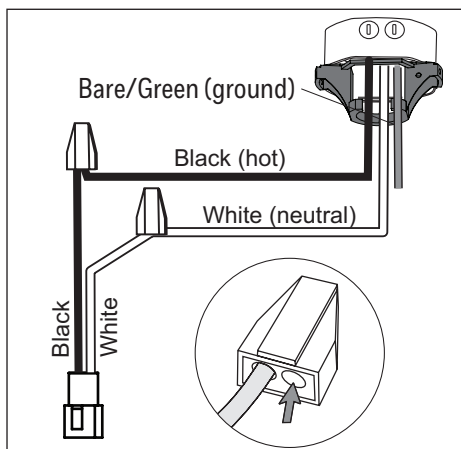

Figure 5.1
1. Use push-in connectors to connect the supply wires from outlet box to the lead wires according to the wiring diagram and the following instructions (Figure 5.1):